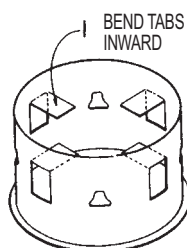

Figure 1
2. Bend the four rectangular tabs inward on Bucket. This will center vent pipe and maintain a 1-inch minimum clearance to outside wall of Bucket. See **Figure 1**.